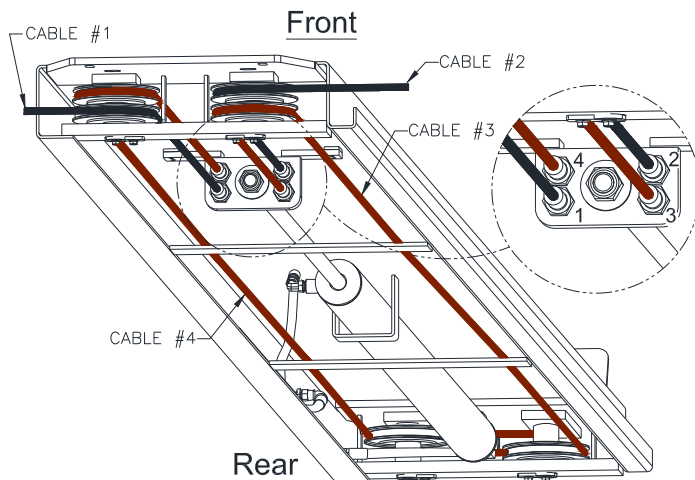
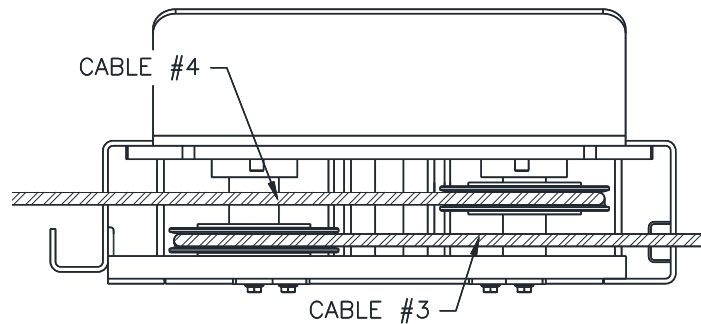

Fig 9 – Cable Layout
Fig 10 – Power Runway (Front View)
- 13) At the rear of the power runway, continue routing cables #3 & #4 to the front of the power runway sheaves, Fig 9.
- 14) At the front of the power runway continue routing cable #3 around the sheave and out the front drivers side cross beam. Cable #4 should be routed around the sheave & out to the passenger side front cross beam, Fig 9 & Fig 10. **MAKE SURE THE CABLES ARE NOT TANGLED WITH THE LOCK RELEASE ROD INSIDE THE CROSSBEAM.**